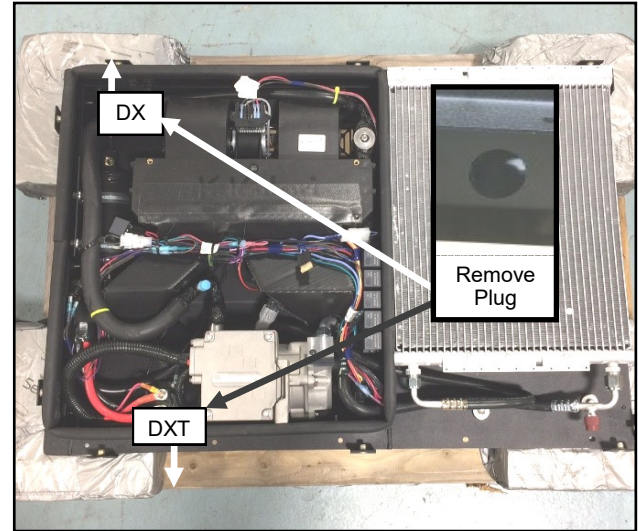

Fig. 1.1 (Remove dome plug from A/C Unit)
- 1.1 Before removing the A/C Unit from shipping pallet, installation of the (3) related A/C Unit harnesses must be completed. First, remove and save the 10 screws holding the cover onto the A/C. Then remove the dome plug on the side of the A/C Unit per Fig 1.1.